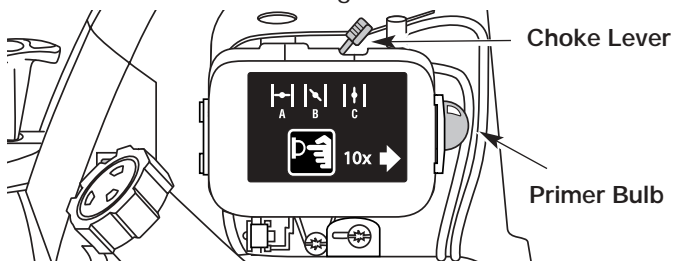

Figure 21
4. Place the choke lever in the **FULL** choke (A) |←| position. See Figure 21.
NOTE: Slide the choke lever directly above the appropriate symbol on filter cover decal. See Figure 21.
5. Fully press and release the primer bulb slowly 10 times until **FUEL IS VISIBLE IN THE PRIMER BULB**. If you can't see fuel in the bulb, press and release the bulb as many times as it takes before you can see fuel in it. See Figure 21.
7. With the unit in the starting position and the choke in the **FULL (A)** |←| position, pull the starter rope briskly 5 times. If the engine attempts to run before the fifth pull, proceed to step 8.
8. Move the choke lever to the **PARTIAL (B)** |↘| position. See Figure 21.
2. Move the choke lever to the **PARTIAL (B)** position. See Figure 21.
3. Fully press and release the primer bulb slowly 10 times until **FUEL IS VISIBLE IN THE PRIMER BULB**. If you can't see fuel in the bulb, press and release the bulb as many times as it takes before you can see fuel in it. See Figure 21.